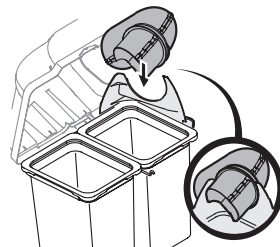

Figure 35
- With the bagger cover open, pivot the upper chute tube into position so that the chute rests in the upper chute support. See Figure 35.